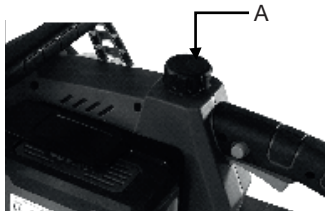

Fig 6
- Park the chainsaw on a level surface. (Fig 6)
- Clean the area around the oil tank cap (A) and then open.
- Close oil tank cover (A).